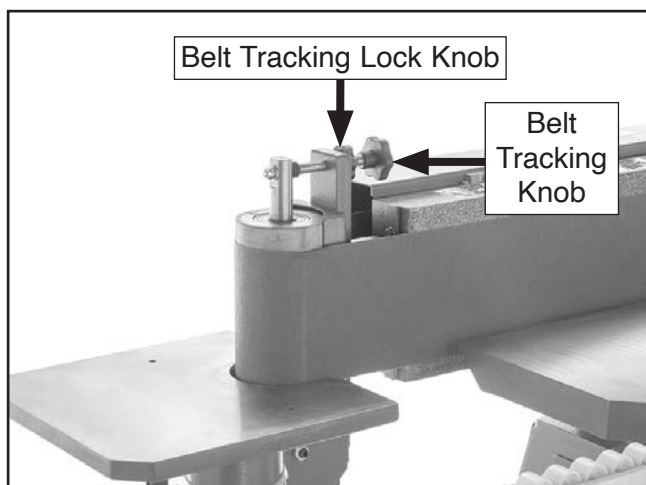

Figure 41. Belt tracking components.
3. Loosen belt tracking lock knob, then adjust belt tracking knob while continuing to rotate sanding belt by hand until sanding belt stays centered on rollers (see **Figure 41**).
8. Tighten belt tracking lock knob (see **Figure 41**) without moving belt tracking knob to secure setting.